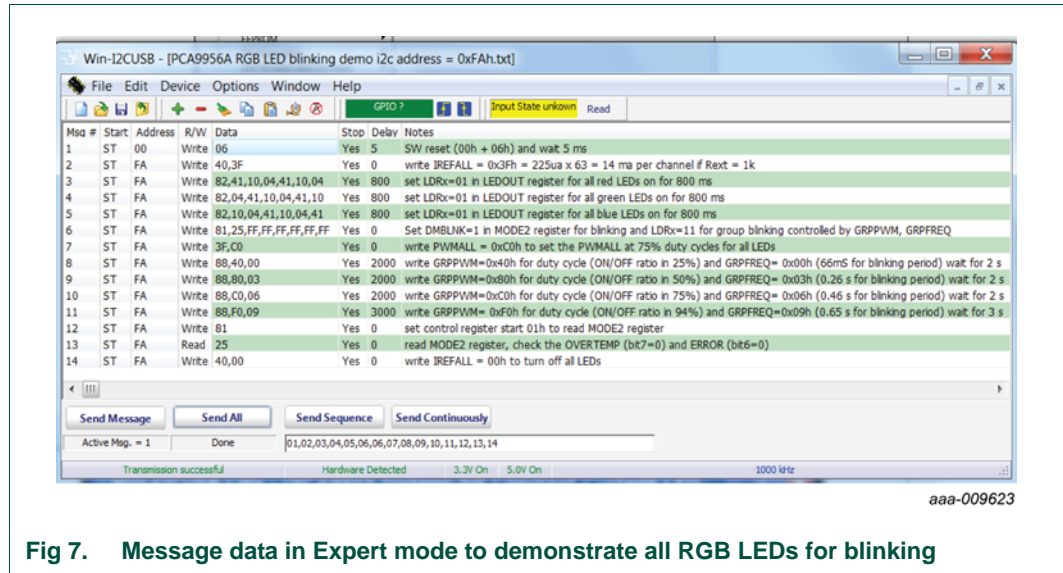

Fig 7. Message data in Expert mode to demonstrate all RGB LEDs for blinking
3. After opening the 'PCA9956B RGB LED blinking demo i2c address = 0xFAh' text file, the WIN-I2CUSB GUI in Expert mode screen will be displayed as shown in Figure 7.